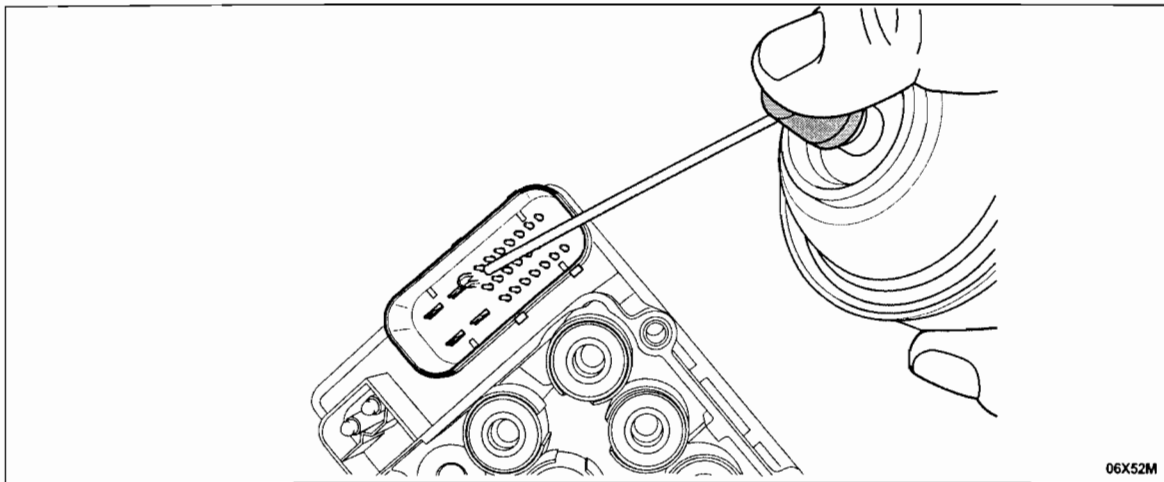

FIGURE 13
8. Use electronic spray cleaner. Spray a small pool of cleaner into module connector in the area of the 4 large terminals. See Figure 13.